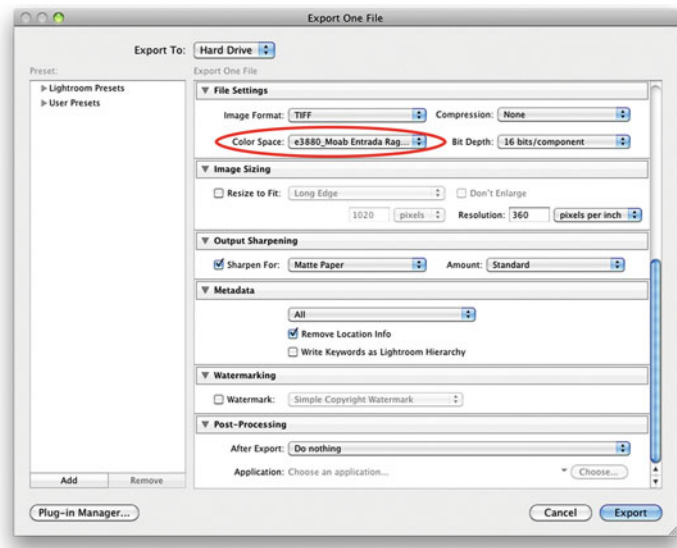

FIGURE 8.47 Export Module in Adobe Lightroom, showing the ability to export to printer/paper output profiles.
1. *Export*. From the Library module's **Export** window (a portion of which is shown in Figure 8.47), you can select the destination color space, which can be a printer/paper profile. But notice what's missing that you have in Photoshop. You have no option to select a color engine, rendering intent, black point compensation, or use dither. To give a cleaner interface, Adobe is deciding these things for us. Depending on the application and the profile, not having control (especially over rendering intent) can be a serious limitation. So, what rendering intent is Lightroom using during an export? Perceptual. If you were going to choose one rendering intent, then this is a good one. Typically,